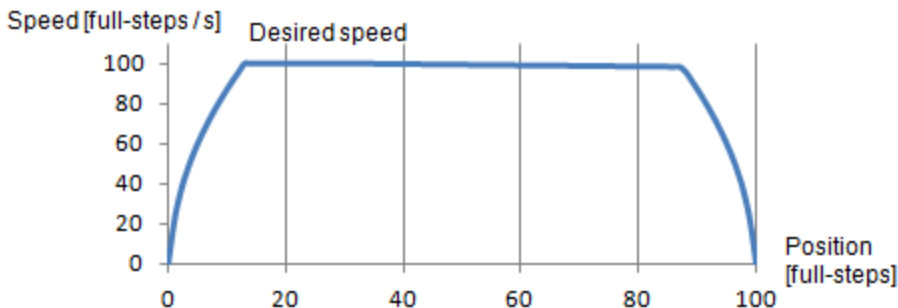

Figure 19. Acceleration and Deceleration Ramp
- a) **Full-step Configuration** contains speed and acceleration settings. Code for the acceleration and deceleration ramp is generated when the **Acceleration** property is set to a value greater than zero. Note that acceleration is always the same as deceleration. An example of an acceleration ramp is depicted in Figure 19. The acceleration setting is 400, as shown in Figure 18.